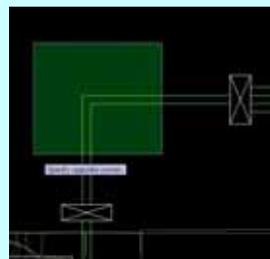

Fig.2-1
- 2) Select the hose lines to be round shape at the turning by mouse drag from upper right side to lower left side while left click (Fig.2-1)